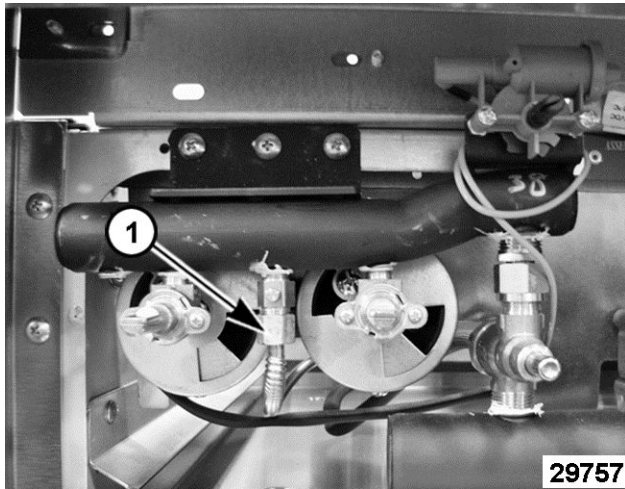

Fig. 62
2. Disconnect pilot flex tube (1, Fig. 62) from gas manifold.